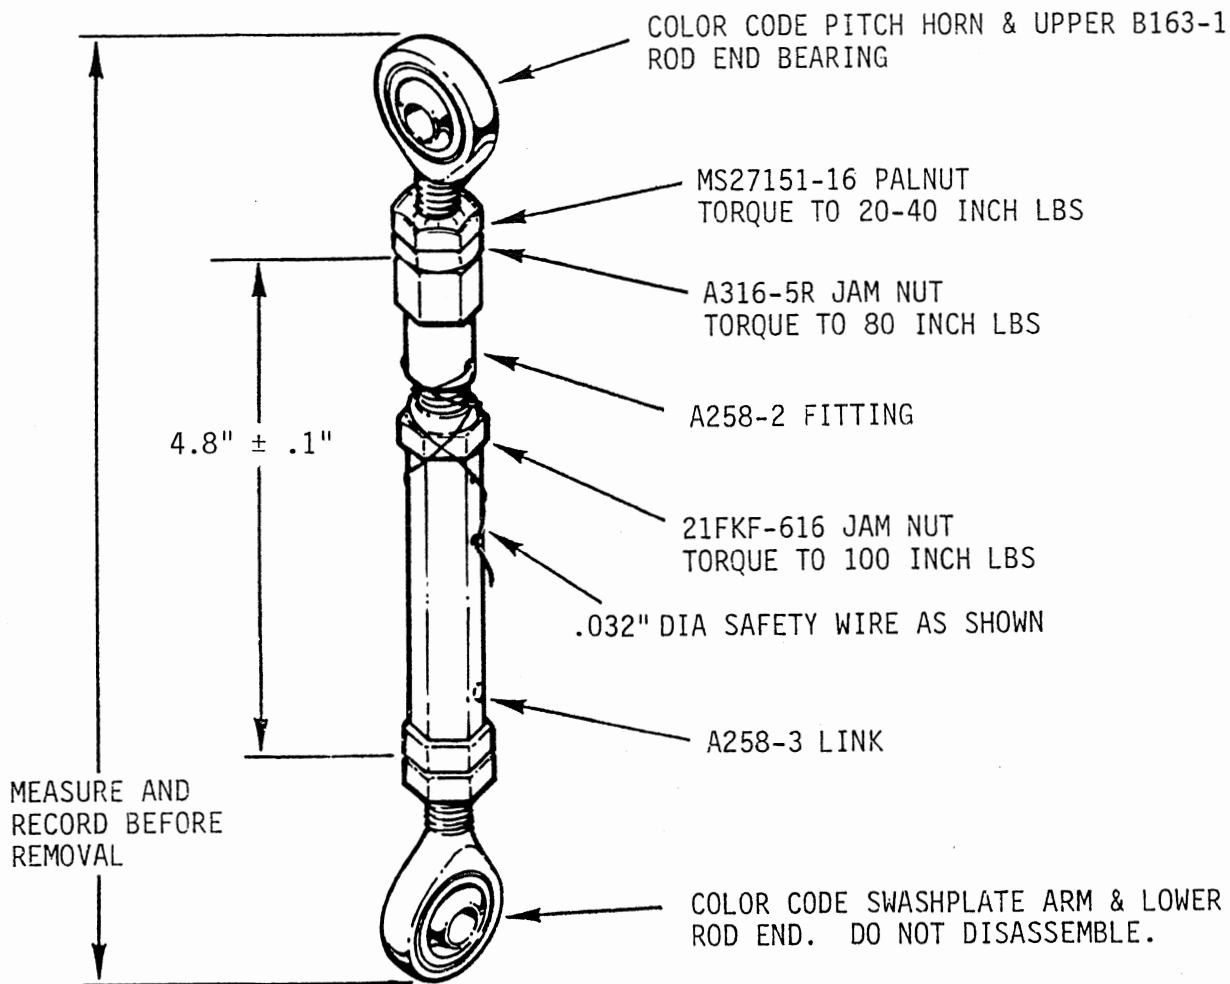

FIGURE 2 MAIN ROTOR PITCH LINK
8. Reassemble pitch links as shown in Figure 2. Keep overall length to within $\pm .005$ of length measured before disassembly.